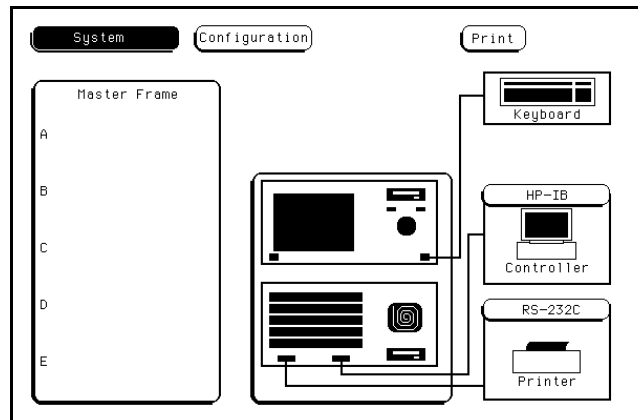

Figure 4-1. System Configuration Menu
1. Insert the operating system disk into one of the disk drives, then turn on the instrument to obtain the System Configuration menu. See figure 4-1.